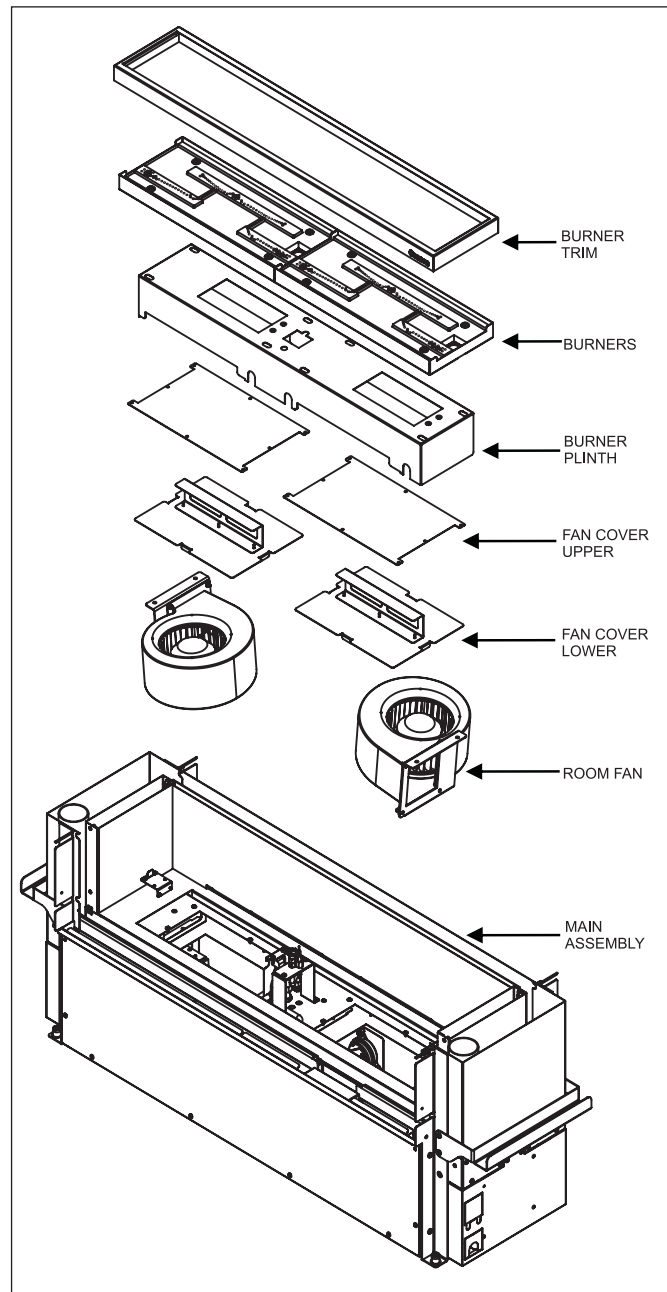

FIG 51 Removal of room fan. Note: top half of heater have been omitted from image for clarity.
3. Remove the Burner Trim (see FIG 51).
3. Remove the Burner Trim (see **FIG 51**).